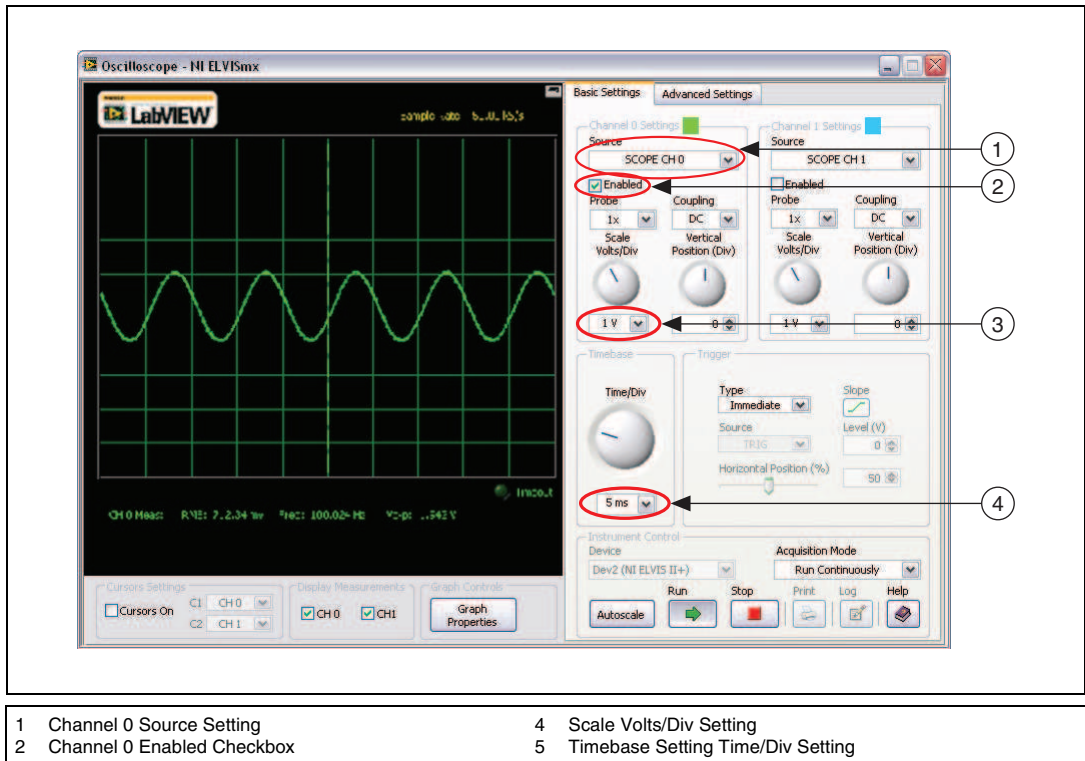

Figure 4. Oscilloscope Settings
8. Refer to Figure 4 while configuring the Scope as follows: